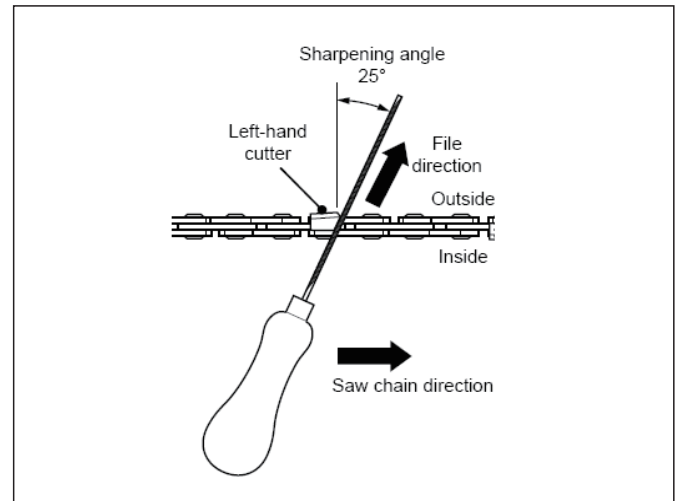

Fig. 36
4. File at an angle perpendicular to the bar, and at an angle of 25° to the direction of travel (Fig. 36).